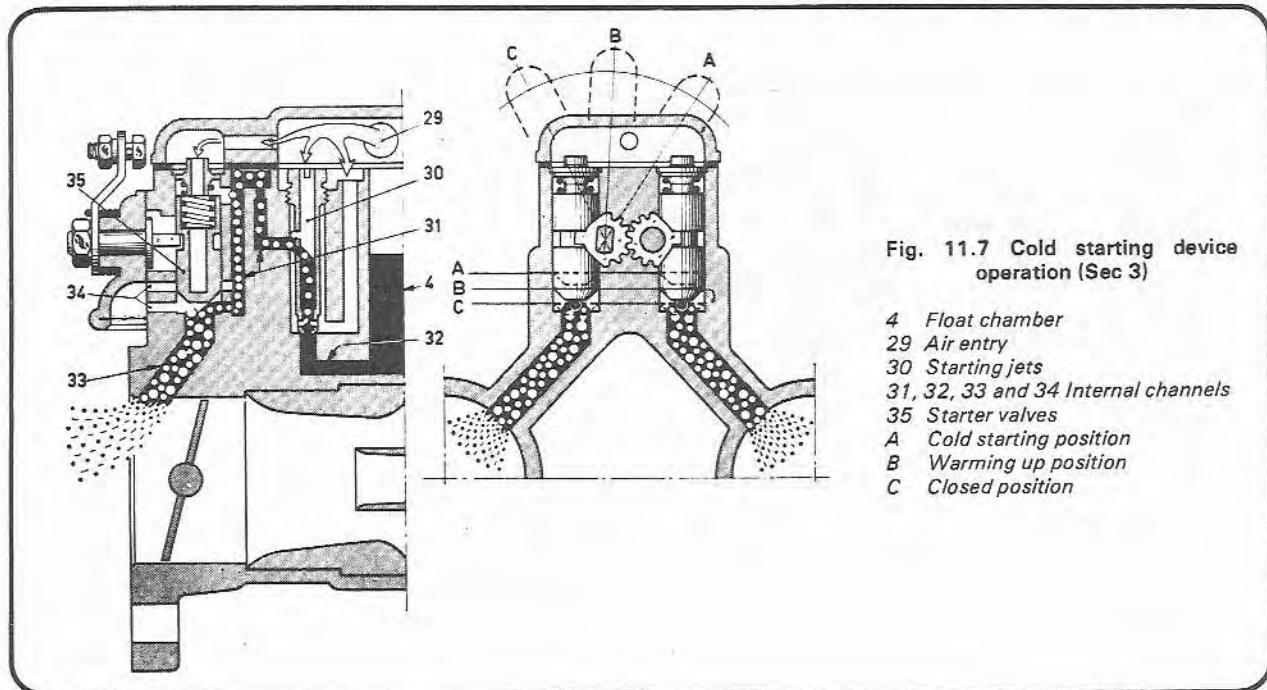

Fig. 11.7 Cold starting device operation (Sec 3)
Operation of the choke (or to be precise cold start) cable moves the starter device lever which, through two intermeshed sector gears, lifts the two starter valves off their seats. Reference to Fig. 11.7 will show that fuel from the float chamber (4) is drawn through the channels (32) to arrive at the starter fuel jets. Air entering the carburetor through hole (29) passes through the top and bottom of the starter jets (30) and emulsifies the fuel which is then drawn through the channels (31), past the starter valves (35), through the channels (33) and into the carburetor throats at the engine side of the throttle valves. It will be observed that additional air is introduced to the emulsified fuel through the starter valve spring retainer guide and through the starter device air filter and channels (34).